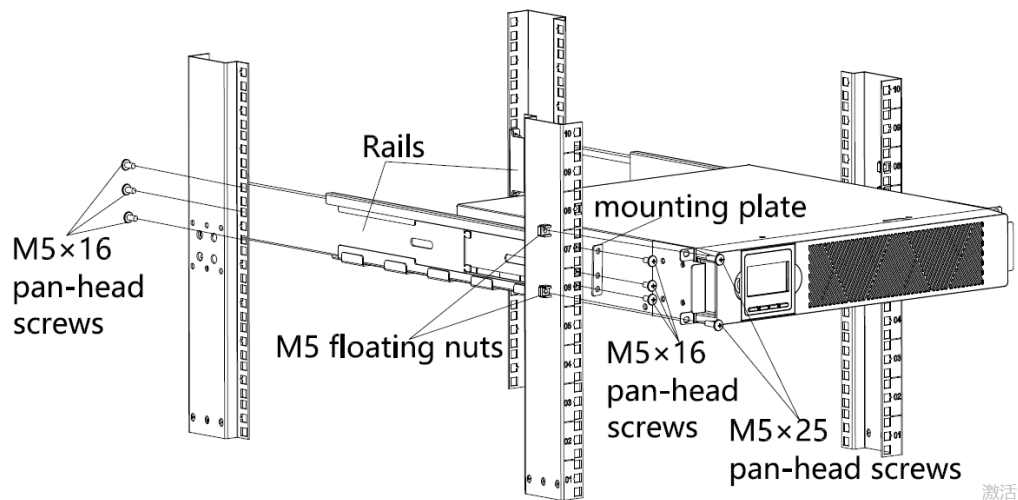

Figure 1: Securing the rails
(1) How to install the rail kit
- a) Assemble the left and right rails to the rear rails as shown in Figure 1. Do not tighten the screws. Adjust each rail size for the depth of your rack.
- b) Select the proper size in the rack for positioning the UPS (see Figure 1). The rail occupies four positions on the front and rear of the rack.